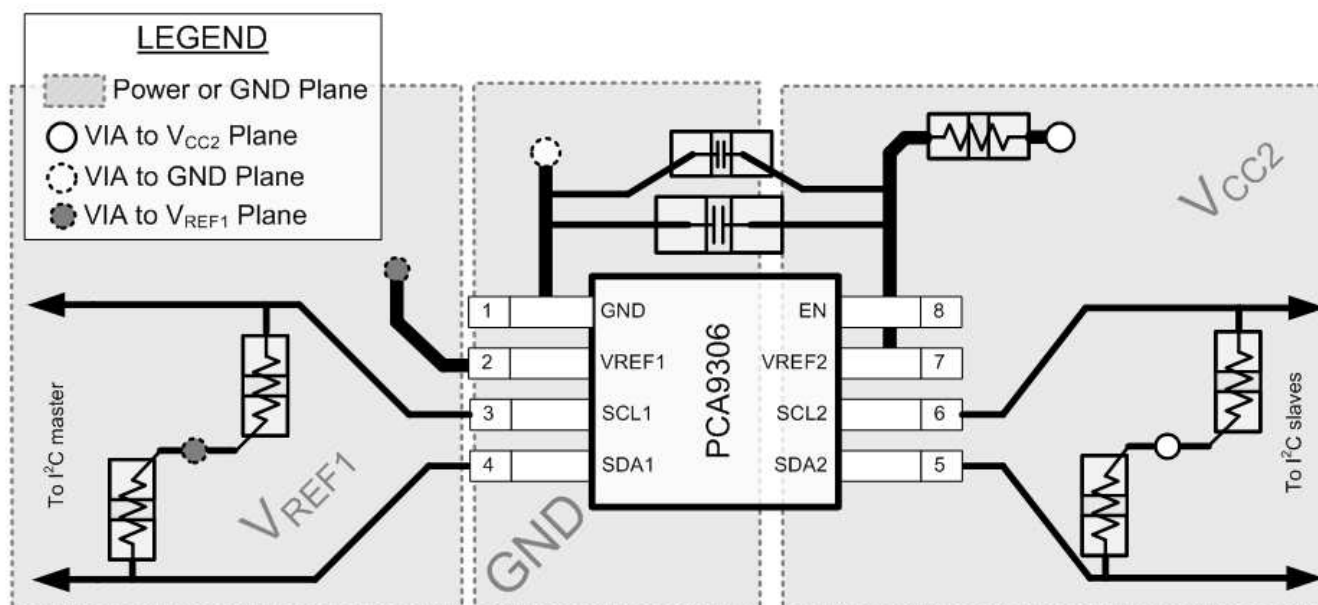

Figure 20. PCA9306 Layout Example
In all PCB layouts, it is a best practice to avoid right angles in signal traces, to fan out signal traces away from each other on leaving the vicinity of an integrated circuit (IC), and to use thicker trace widths to carry higher amounts of current that commonly pass through power and ground traces. The 100-pF filter capacitor should be placed as close to V_{REF2} as possible. A larger decoupling capacitor can also be used, but a longer time constant of two capacitors and the 200-k Ω resistor results in longer turnon and turnoff times for the PCA9306 device. These best practices are shown in Figure 20.
For the layout example provided in Figure 20, it would be possible to fabricate a PCB with only two layers by using the top layer for signal routing and the bottom layer as a split plane for power (V_{CC}) and ground (GND). However, a four-layer board is preferable for boards with higher-density signal routing. On a four-layer PCB, it is common to route signals on the top and bottom layer, dedicate one internal layer to a ground plane, and dedicate the other internal layer to a power plane. In a board layout using planes or split planes for power and ground, vias are placed directly next to the surface-mount component pad, which must attach to V_{CC} or GND, and the via is connected electrically to the internal layer or the other side of the board. Vias are also used when a signal trace must be routed to the opposite side of the board, but this technique is not demonstrated in Figure 20.